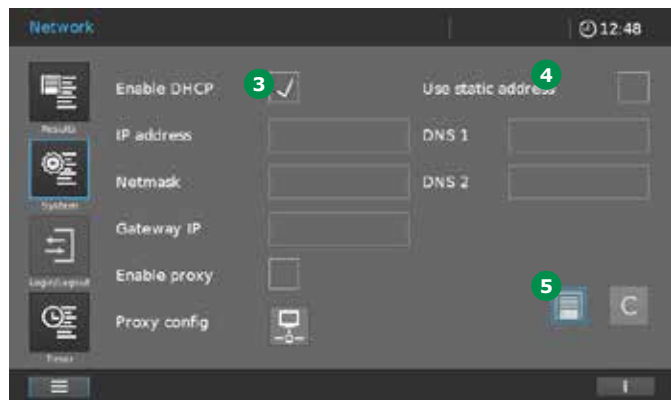

Figure 14 - After clicking on "Network" in the previous window (Figure 13), this window will appear
2. Select "Enable DHCP" 3 (Figure 14) if a DHCP-server is available in the network or select "Use static address" 4 and enter the network parameters (IP address, netmask, gateway, proxy) provided by your system administrator into the configuration menu.